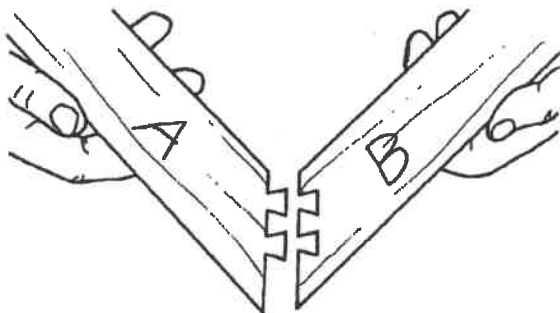
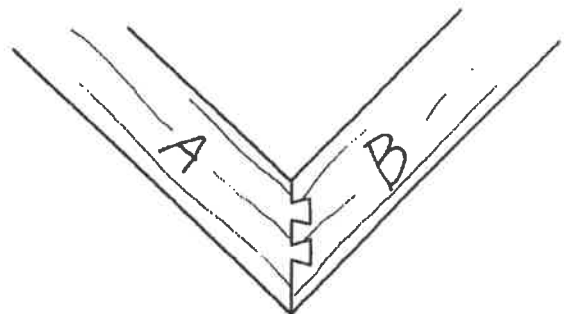

Fig. D-11
Fig. D-12
11. Assemble the workpieces, as shown in Fig. D-11. They go together easier if you slide the workpieces in the same direction as the dovetail bit pass through the wood. Fig. D-12 illustrates the completed spliced dovetail joint.